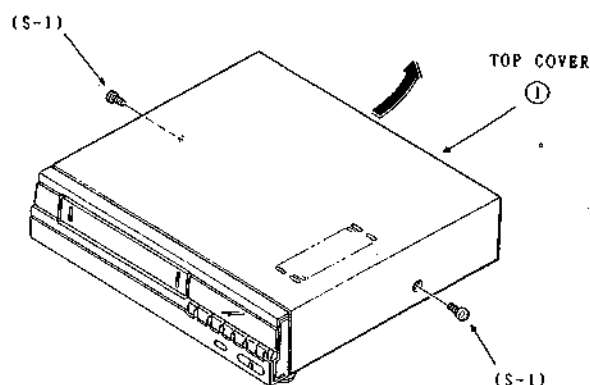

Fig. 11
- Undo the 2 screws (Fig. 11).